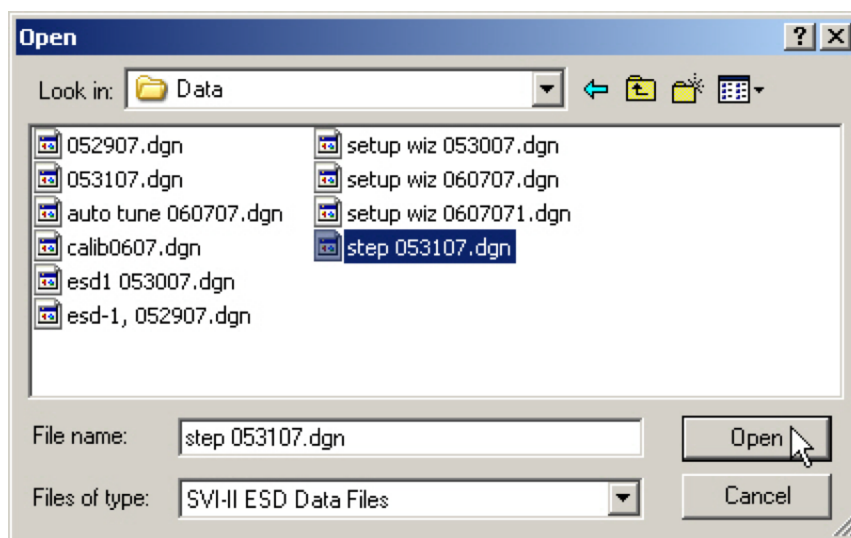

Figure 233 - Opening File for Diagnostic Data
2. Locate the file to load and click **Open** (*Figure 233*).